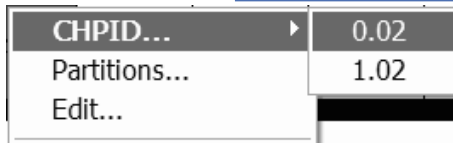

Figure 13. Context menu of a spanned CHPID in a vertical processor view
1. In the vertical processor view, you can see only one (physical) instance of a spanned CHPID. Nevertheless, in such a case, you can get information about all logical instances from such a CHPID's context menu (see Figure 13 on page 37).